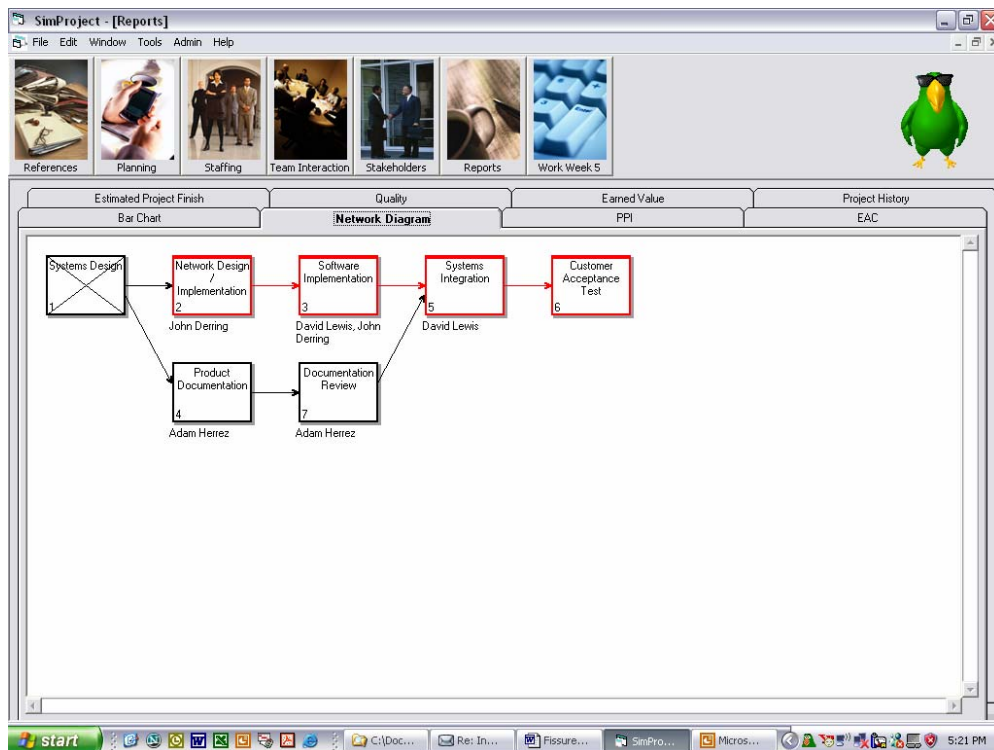

Figure 17 - Reports Screen – Network Diagram
- Network Diagram – task dependencies/sequence (Figure 17)